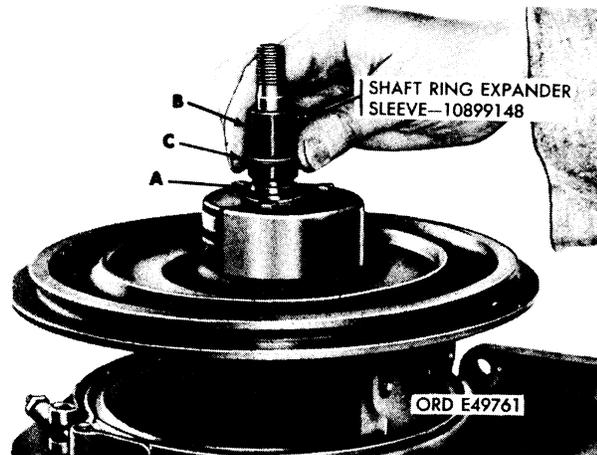

FIGURE 55. INSTALLING FLINGER SLEEVE AND PISTON RINGS - TURBOCHARGERS 10912638 AND 53591-C-139552.
(1) Refer to figure 55.
- (a) Position flinger sleeve (A) over oil deflector with piston ring groove end up.
**Note.** If sleeve is tight on shaft, place unit in an arbor press and press sleeve on shaft as shown in figure 55. Remove tool and replace unit in vise.